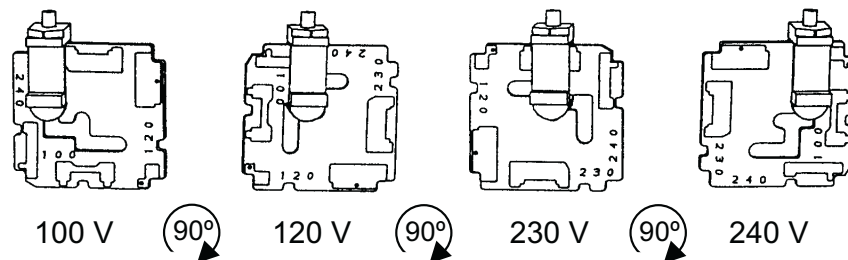

Figure 5. Voltage selector card positions
4. Orient the selector card so that the desired input voltage is readable at the bottom (see Figure 5). Then orient the indicator pin to point up when the desired voltage is readable at the bottom, with the indicator pin assembly seated in the notch on the board edge.